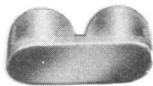

Fig. 4—KS-19478 L1 Guard
4.03 *KS-19478 L1 Guard:* In order to prevent interference with special circuits, the KS-19478, L1 guard (Fig. 4) is used to cover two test terminals (tip and ring) on the test terminal field of the connector.